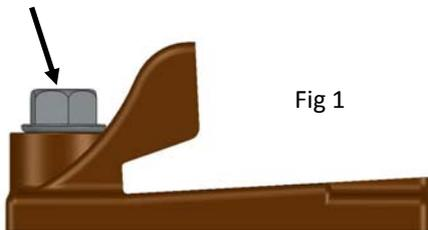

Fig 1
2. Install the rail to the length of sleepers and chairs that have pre assembled as Fig 1.
3. Place smaller section of the chair into place against the rail. Screw loosely as Fig 1 both screws will be fully tightened once the required gauge is achieved.